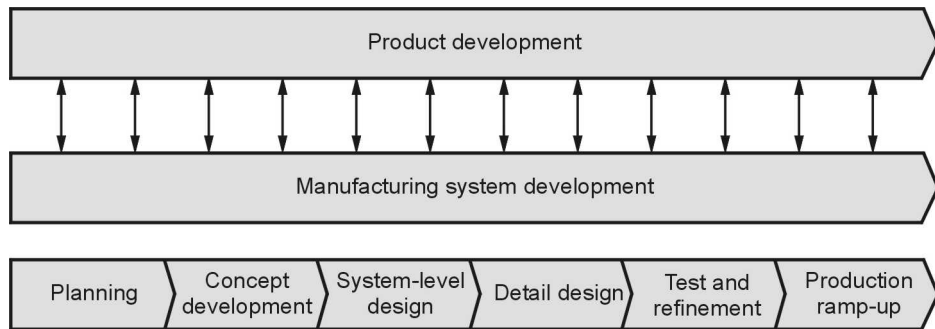

Fig. 6.2.1 Product development process and organizations
- The general product development process and organization is divided into six stages, as shown in Fig. 6.2.1.